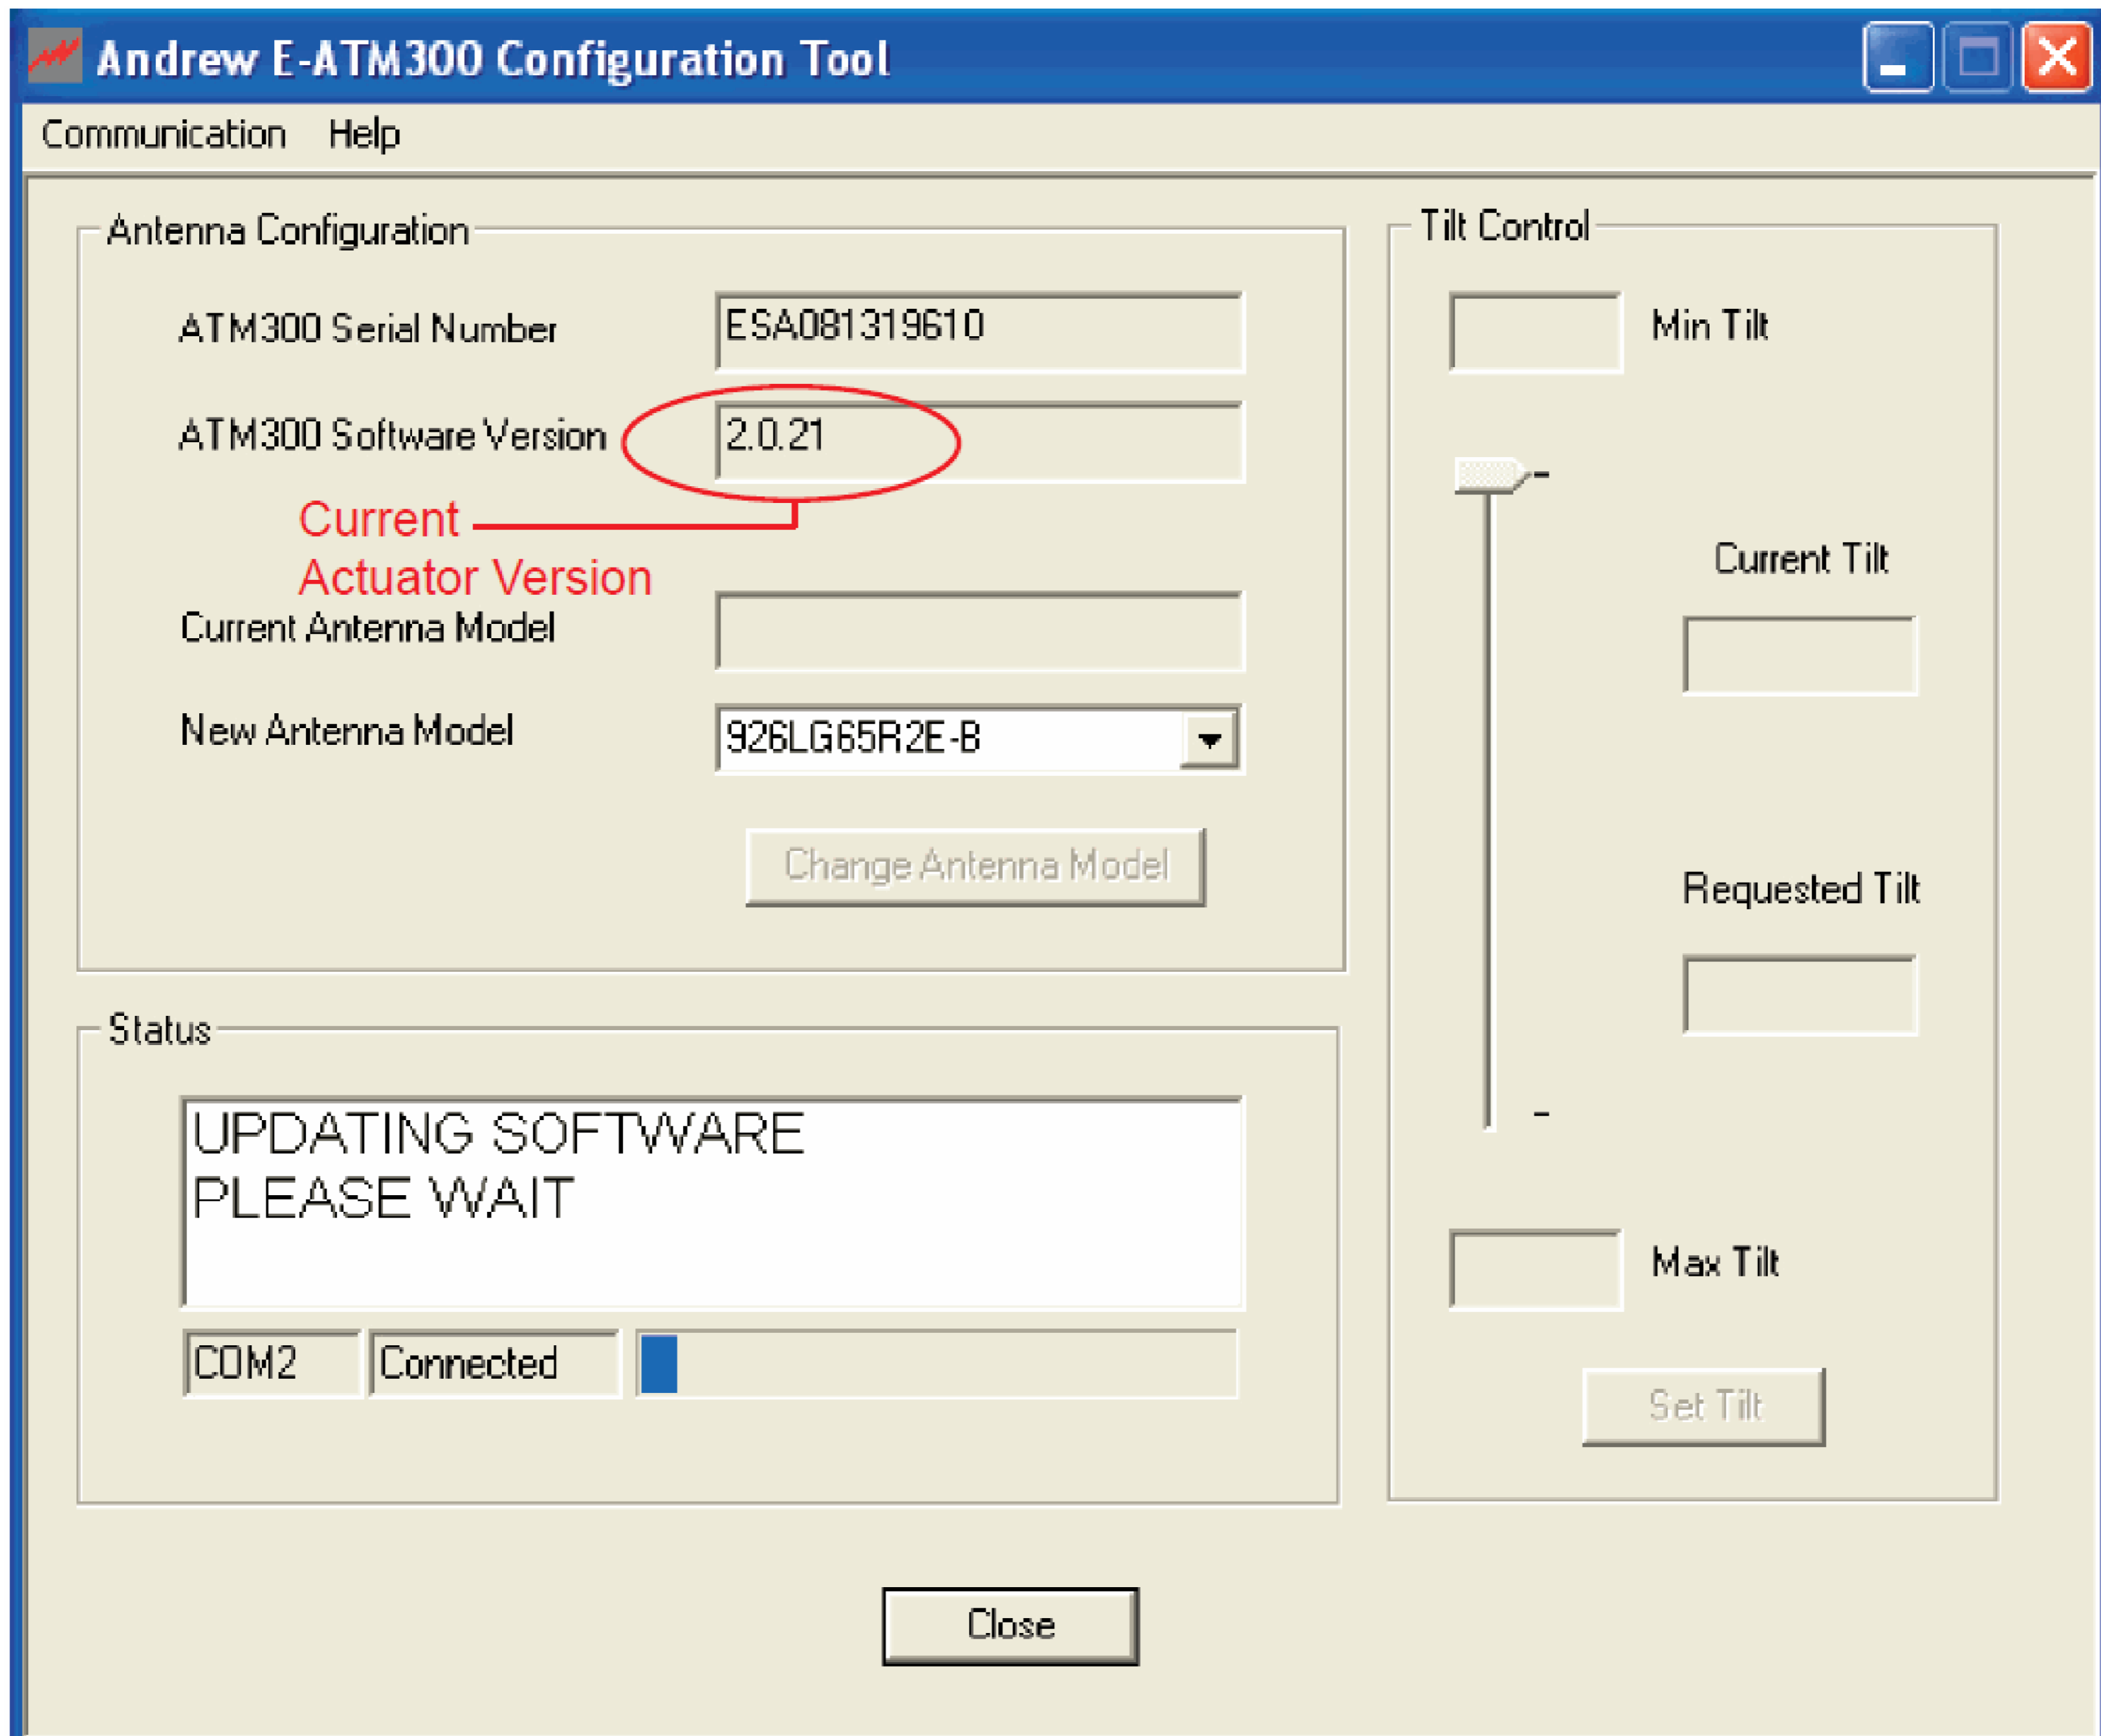

Figure 3-2. EFCT Detecting Current Actuator Software Version.
5. Once the device is found, the EFCT program will compare the actuator version of the firmware with what is stored in the program. If the program has a newer version it will proceed with the upgrade. In this example, you can see that the device currently holds version 2.0.21 (Figure 3-2). The EFCT program contains version 2.0.22 and starts the upgrade.